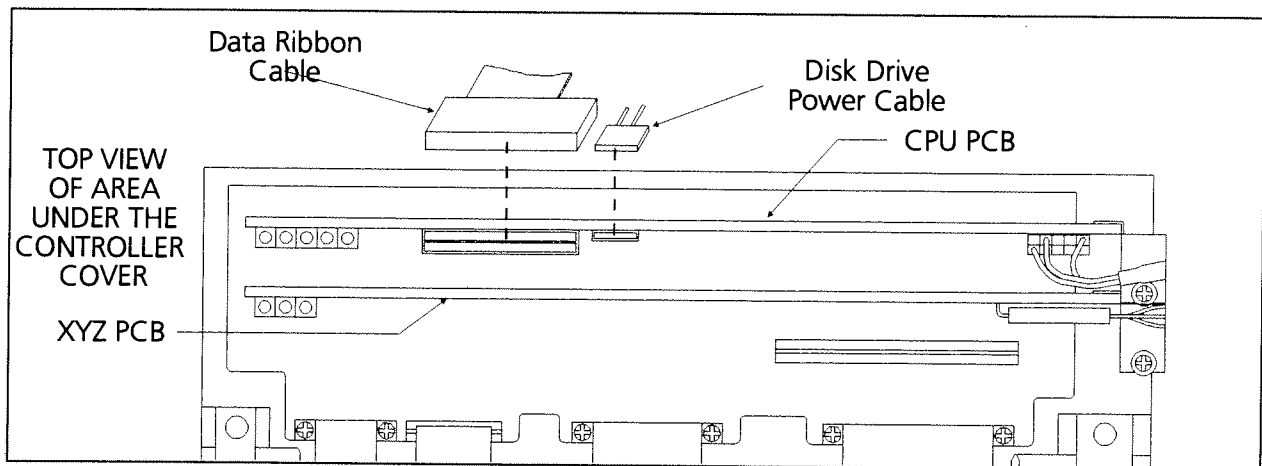

Figure A-3 Single Head Controller Section
4. While holding the cover and drive assembly with one hand, plug the data ribbon cable into its mating connector on the top of the CPU PCB (see Figure A-3). Also, plug the disk drive power cable into its mating connector on the top of the CPU PCB next to the data cable connector.